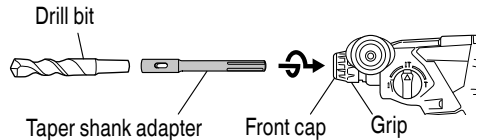
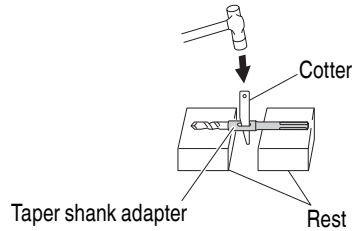

Fig. 27
Fig. 28
- (1) Mount the taper shank adapter to the rotary hammer (Fig. 27).
- (2) Mount the drill bit (taper shank) to the taper shank adapter (Fig. 27).
- (3) Turn the switch ON, and drill a hole in prescribed depth.
- (4) To remove the drill bit (taper shank), insert the cotter into the slot of the taper shank adapter and strike the head of the cotter with a hammer supporting on the rests (Fig. 28).